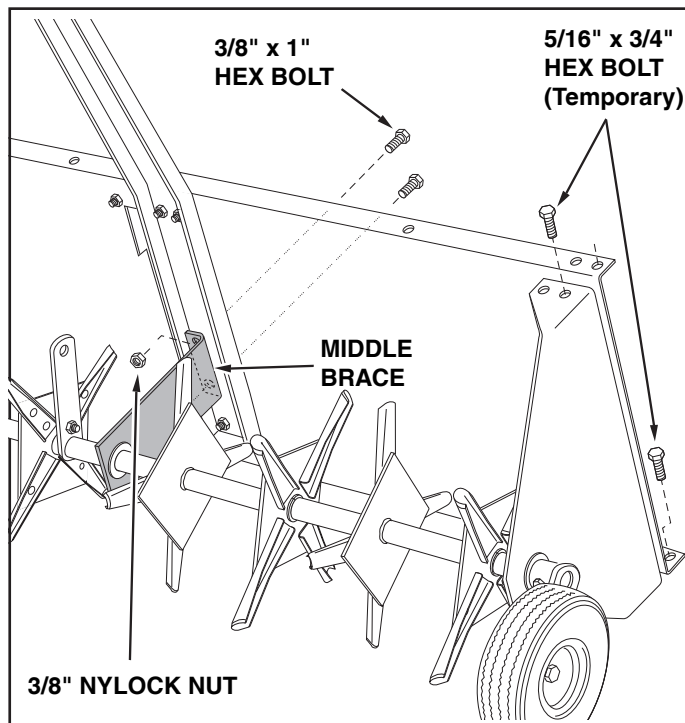

FIGURE 9
13. Place the tray between the end plates. Temporarily insert three 5/16" x 3/4" hex bolts to hold the tray and end plates together at the corners. Leave one upper corner empty. See figure 9.
14. Rotate the middle brace up against the tongue, aligning it with the holes that are closest to the slot in the tray. Fasten the brace to the tongue using two 3/8" x 1" hex bolts and 3/8" nylock nuts. **Do not tighten till step 18.** See figure 9.